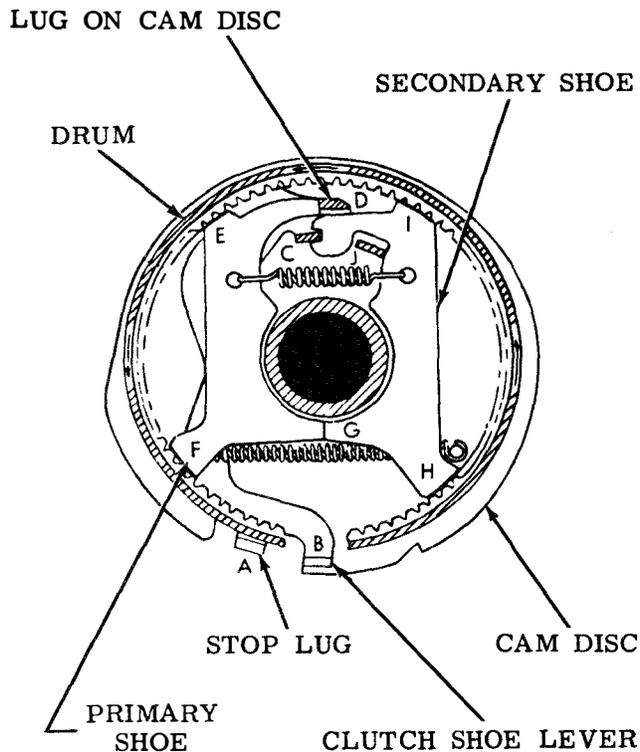

Figure 10 - Clutch - Engaged
6.06 Clutch engagement (Figure 10) is accomplished by releasing the lower end of lever B. The upper end of lever B pivots about its ear C (which bears against the upper end of the secondary shoe) and moves its ear D, and the upper end of the primary shoe, toward the left until the shoe makes contact with the drum at point E. As the drum turns counterclockwise, it drives the primary shoe downward, so that it again makes contact with the drum, this time at